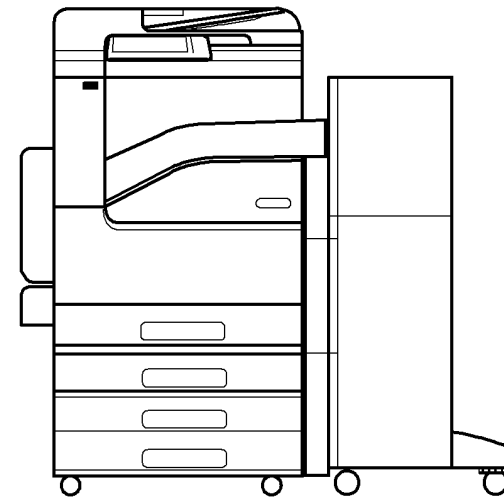

Figure 3 With office finisher LX and 3TM
- Xerox® VersaLink® C7020/C7025/C7030 with office finisher LX and 3TM, Figure 3.